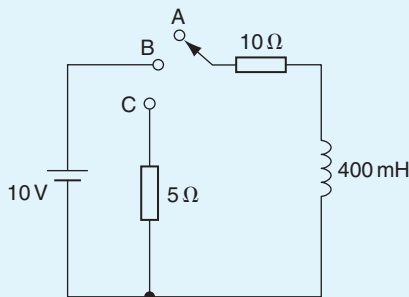

Figure 18.15
6. In the inductive circuit shown in Fig. 18.15, the switch is moved from position A to position B until maximum current is flowing. Calculate (a) the time taken for the voltage across the resistance to reach 8 volts, (b) the time taken for maximum current to flow in the circuit, (c) the energy stored in the inductor when maximum current is flowing, and (d) the time for current to drop to 750 mA after switching to position C.